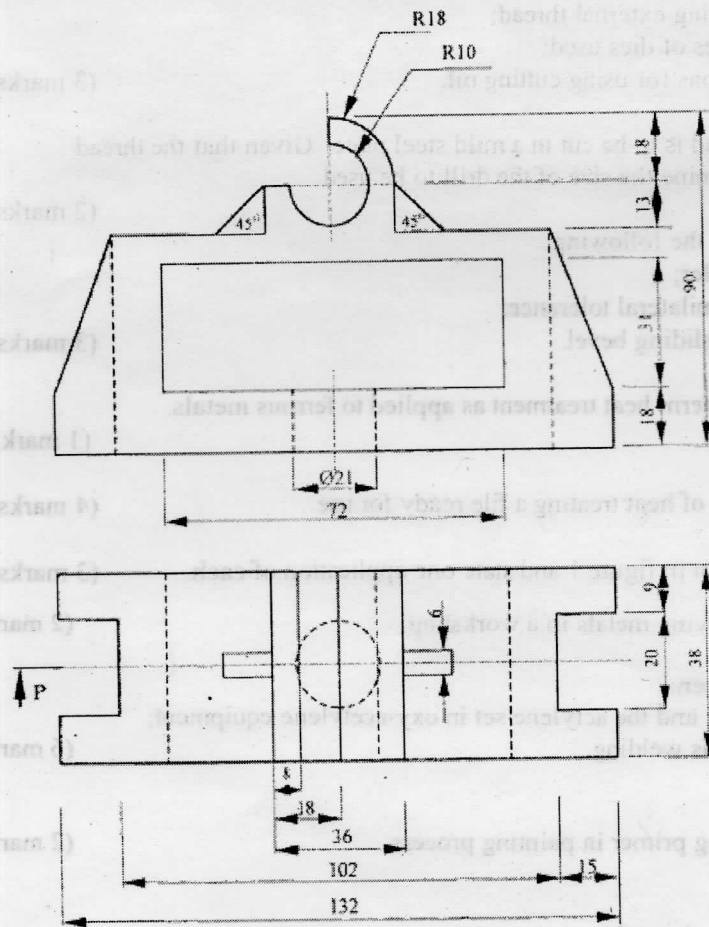

Figure 3
- 11 Figure 3 shows two views of a machined component drawn in first angle projection.